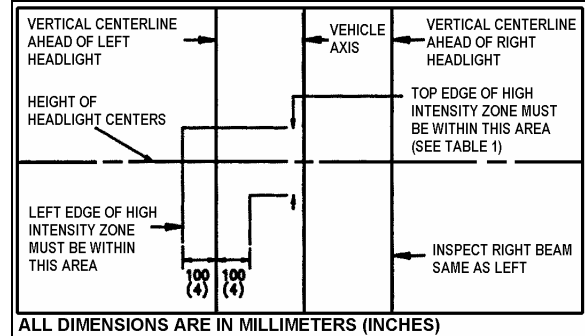

FIGURE 53: AIM INSPECTION LIMITS FOR LOWER-BEAM HEADLIGHTS 06506
8. The inspection limits in the vertical direction for low-beam headlights or the low beam of a dual-beam headlight, shall be as described in Table 1. In the horizontal direction, the left edge of the high-intensity zone shall be located from 10 cm (4 in) left to 10 cm (4 in) right of the vertical centerline of the beam. The viewing screen shall be located 7.6 m (25 ft) in front of the vehicle (Fig. 53).